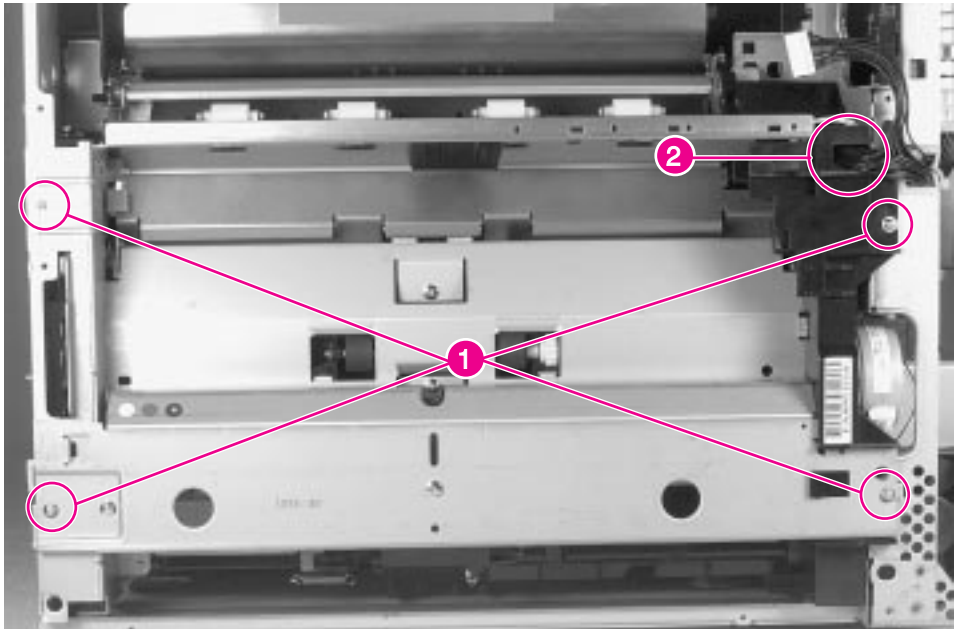

Figure 6-32 Paper Input Unit
- Paper Input Unit (PIU) (see figure 6-32 on page 195)
- 5 Remove 4 screws (figure 6-32, callout 1).
- 6 Slide the assembly out from the chassis approximately 3 inches, and unplug the connector inside the right end (figure 6-32, callout 2).